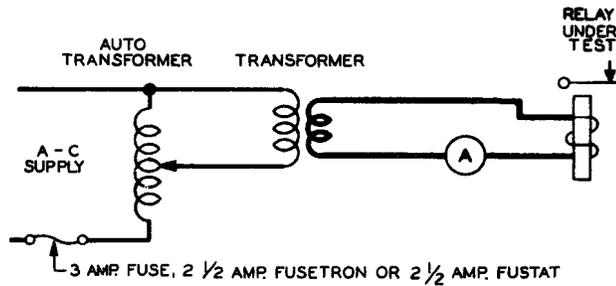

Fig. 12 - Test Connections Where Relay Is Rated in Amperes AC
(2) A rough check of the operation of a current-rated relay is made by connecting an ammeter in series with the relay coil. Failure to operate at rated amperes or higher would call for readjustment of the relay. If ammeter shows no reading, check with a voltmeter from each coil terminal, first to one side of the battery or line (grounded side first if any) and then to the other side. A voltage reading to one coil terminal and none to the other from the same side of the battery or line would indicate that the coil was open and should be replaced.
(3) When readjusting or when checking for any electrical requirement except the rough check of operation discussed in (1) and (2) above, the relay or switch should be removed from the working circuit if possible. Where this is not possible, bridge around contacts (see 3.002), insulate between contacts with a strip of bond paper, or disconnect leads, as necessary, in order to maintain circuit conditions unchanged. Use caution when working in close quarters with live parts. Disconnect one or both coil terminals before making test connections discussed in (4), (5), or (6) below.
(4) Where requirements are expressed in miliamperes it is direct current unless otherwise specified, and a No. 35C or No. 35D test set should be used. Where requirements are in volts it is direct current unless otherwise specified, and a No. 35D test set or a No. 35C test set supplemented by a dc voltmeter should be used. Where test set preparation has not been specified on the Circuit Requirements Table, it is suggested that both relay coil terminals be disconnected and both battery and ground be furnished through the test set with B/G or B/G/V preparation.
(5) Where electrical requirements are expressed in volts alternating current, connect the ac supply to the input of a continuously tapped autotransformer protected by a 2-1/2- or 3-ampere fuse. Connect the relay coil and a voltmeter across the output of the autotransformer and adjust to specified values.
(6) Where electrical requirements are expressed in amperes alternating current, an autotransformer should be used. Where current in excess of the output rating of the autotransformer is required, a transformer should be added as shown in Fig. 12. If the No. 352AL transformer is used, terminals 1 and 3 are connected to the relay and terminals 4 and 210, 230, or 250, depending on line voltage, are connected to the output of the autotransformer. With the above arrangement, current up to 60 amperes at 2.25 volts alternating current can be obtained by manipulation of the autotransformer. For test purposes, the current should be gradually increased to the specified operate value and gradually reduced to the specified release value.
(7) Operate, nonoperate, and release adjustments may be made by changing contact pressures, but in no case should the pressure be less than the specified minimum. Changes in these values may also be made by changing the air gap between the armature and the pole face as outlined in 3.06.
(8) If the armature moves toward the core as the electrical operate current is applied, but fails to pull all the way up to the core, it is an indication of excessive contact pressure, a bind in the pivot structure, an obstruction in armature gap, or excessive armature retractile spring tension. Reduce the contact pressure as outlined in 3.05, exercising care not to change the contact sequence. If the armature retractile spring tension is excessive, reduce the tension as outlined in 3.05(3).
(9) If the relay fails to meet its nonoperate requirement, increase the armature air gap as covered in 3.06, and if the relay is equipped with an armature retractile spring, increase the tension as outlined in 3.05(3). If a readjustment of the contact pressure is necessary, proceed as covered in 3.05.